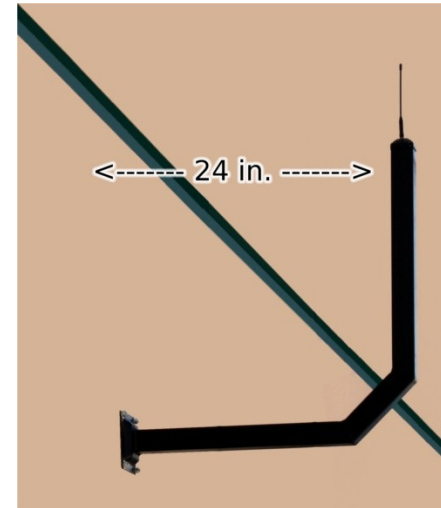

Figure 1
- 2) Ensure antenna is not installed against any metallic surface. To avoid reducing radio range install antenna at least 24" away from steel post or building structure (see figure 1).